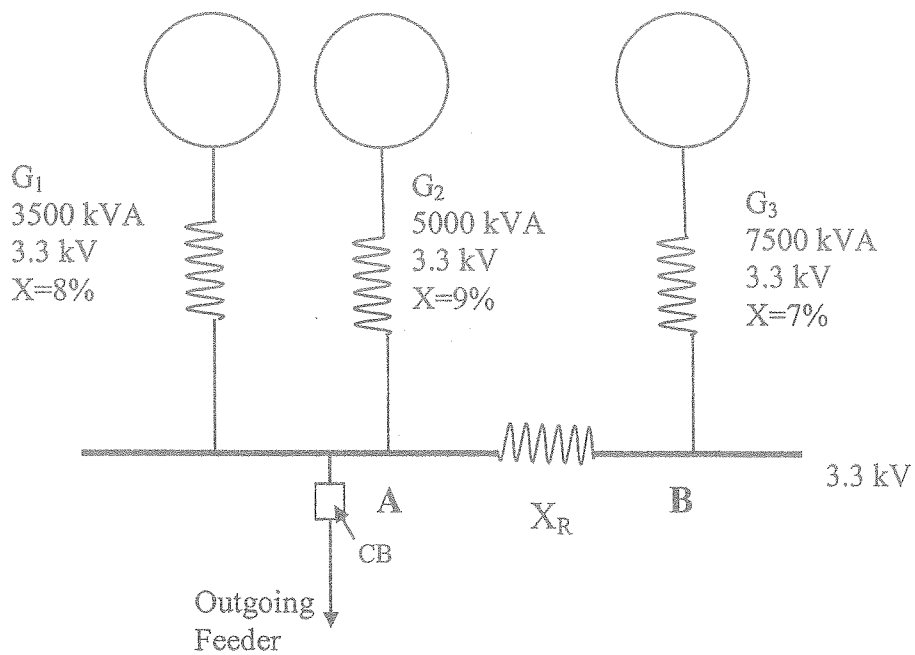

Figure Q2
b) A power plant arrangement with outgoing feeder is described in Figure Q2. This power plant has two generating units rated at 3500 kVA, 3.3 kV and 5000 kVA, 3.3 kV with reactances of 8% per-unit and 9% per-unit respectively connected to the busbar A. It is planned to extend the system by connecting it into another busbar (busbar B) having another generator rated at 7500 kVA, 3.3 kV, 7% per-unit reactance through a reactor as indicated in Figure Q2. The busbar voltages are 3.3 kV. A circuit breaker has been installed at the outgoing feeder of busbar A for the three phase short circuit protection of the feeder. The maximum circuit breaker capacity is 175 MVA.